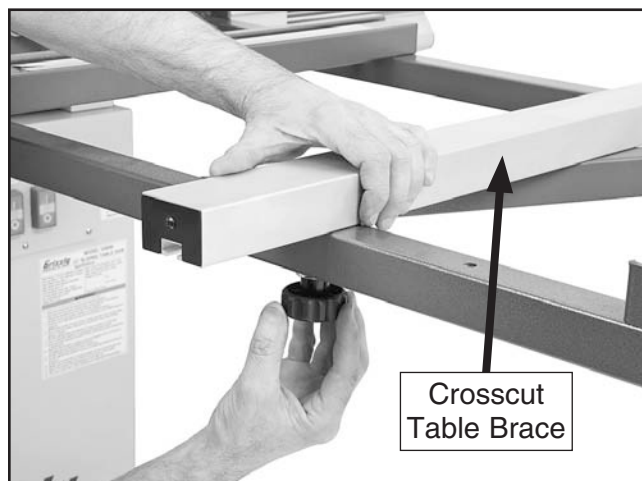

Figure 47. Installing the crosscut table brace.
53. Slide (2) M8-1.25 T-nuts into the crosscut table brace, align the T-nuts with the holes in the crosscut table, then secure the brace with (2) M8-1.25 x 50 knobs and 8mm fender washers, as shown in **Figure 47**.